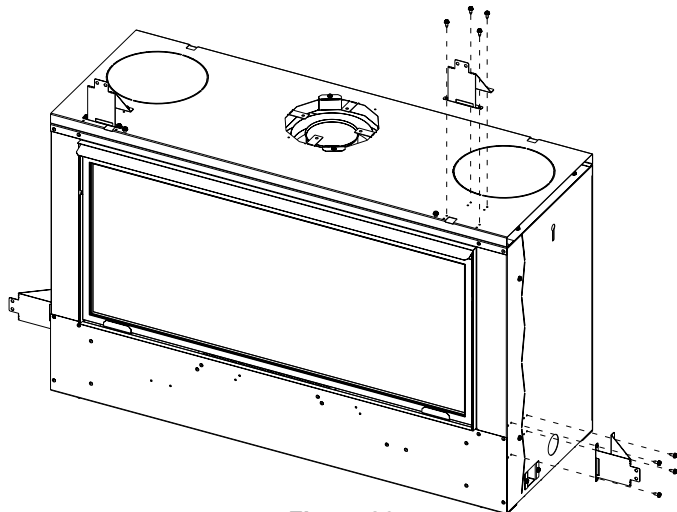

Figure 26
3. Retrieve the four framing brackets from hardware pack and hand bend them into a V shape as shown in **Figure 26**.
4. Attach framing brackets to the fireplace with included #10 X 1/2-inch screws. Brackets can be either flush to the fireplace or set back 1/2-inch, according to the desired finishing method. **See Figures 26, 31 and 32.**